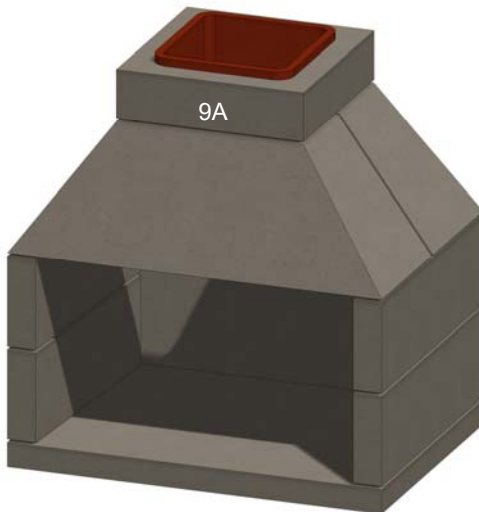

Figure 13. Chimney Flue
G. Patio Series kits include 2 chimney sections. A maximum of four additional feet of chimney is recommended with the Patio Series fireplaces. Install the first Stone Age masonry chimney section (9A), with the tile extending upward. Fill the void on the bottom with mortar to create a smooth transition. See Figure 13.